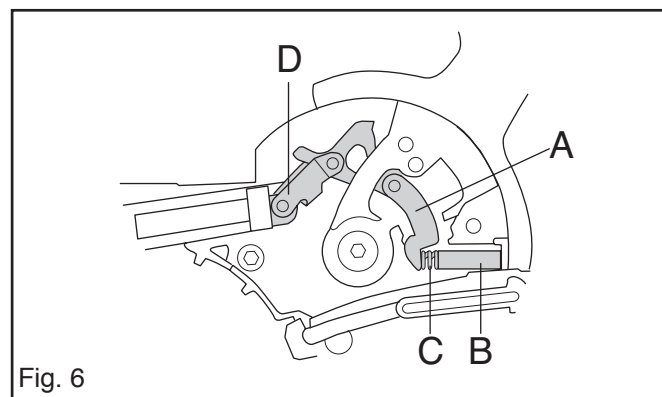

Fig. 6
2. Grease the moving parts of the toggle joint (D) and fit the unit on the chain saw. See fig. 6.
4. Grease and fit the lever (A). See fig. 6.